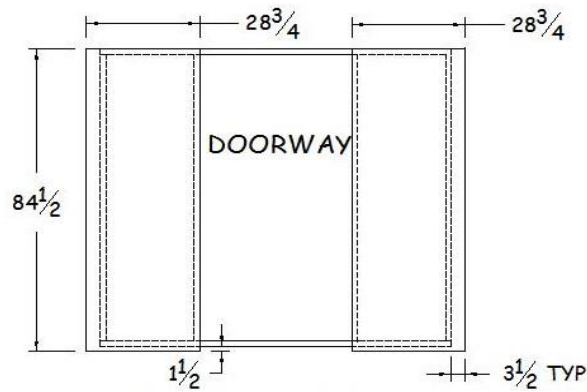

Figure 22-6. Front Wall Sheathing.
- b. Cut two pieces of $\frac{1}{2}$ " OSB to $28\frac{3}{4}$ " x $84\frac{1}{2}$ ". Cut the 48" width of the sheets to $28\frac{3}{4}$ " first, then the length to $84\frac{1}{2}$ ". This leaves a $19\frac{1}{4}$ " wide OSB drop. Position the OSB rough side up, flush with the edge of the door opening, and flush with the top edge of the upper plate. There should be an overhang of $3\frac{1}{2}$ " on each side and an overhang on the bottom plate of $1\frac{1}{2}$ ". A scrap piece of 2x4 can be used as a gauge for the $3\frac{1}{2}$ " and $1\frac{1}{2}$ " overlaps. Nail each piece of OSB into studs and both plates every 8-12" using 8d nails. See Figure 22-6.
1. Verify that all the wall components have been sheathed (see Figures 22-6, 22-7 and 22-8). There should be two 8' long walls for the sides, a short back wall and a short front wall with the door opening. The OSB sheathing on all walls should extend 1 $\frac{1}{2}$ " below the bottom plate to attach to the sides of the floor frame. On the short walls, the OSB should also extend beyond the end studs by 3 $\frac{1}{2}$ " to overlap the long wall end studs.